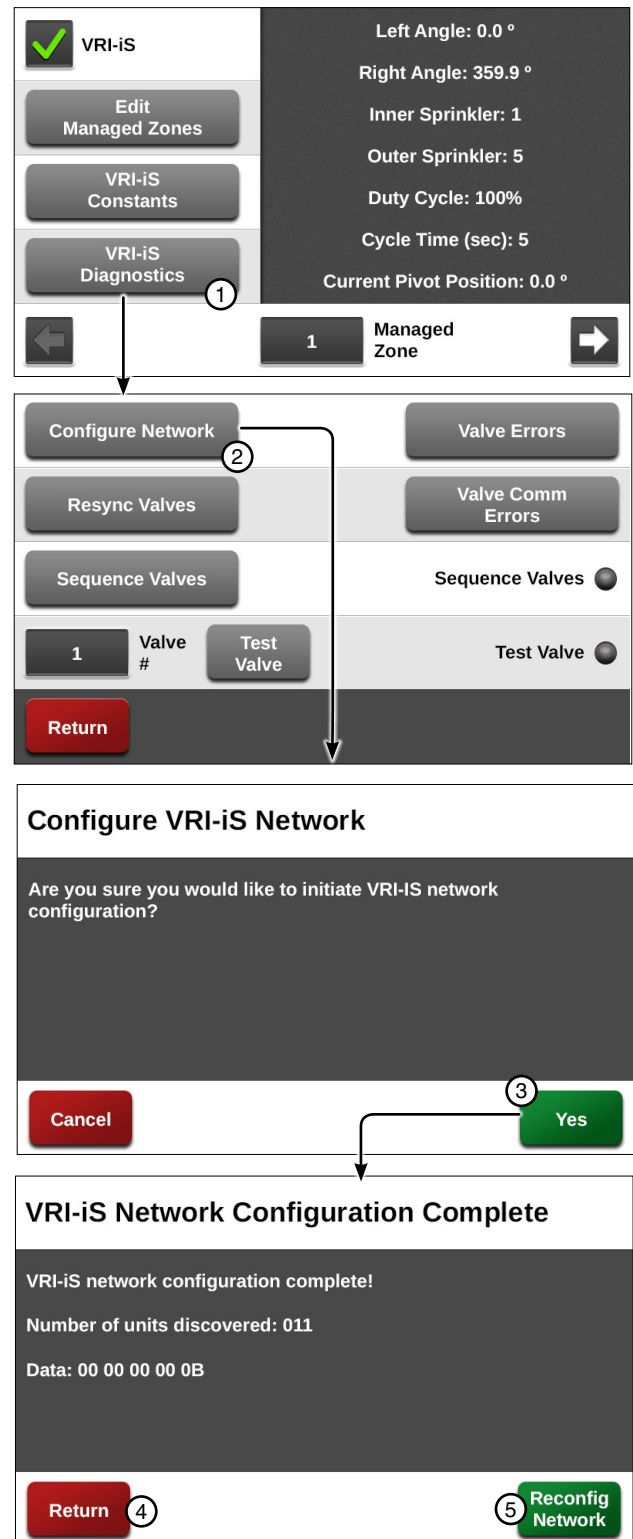

Figure 179-1 1. VRI-iS Diagnostics
1. Push **Menu**, **Programs**, **VRI**, and **VRI-iS Diagnostics** to display the VRI-iS diagnostics screen. Refer to Figure 179-1.